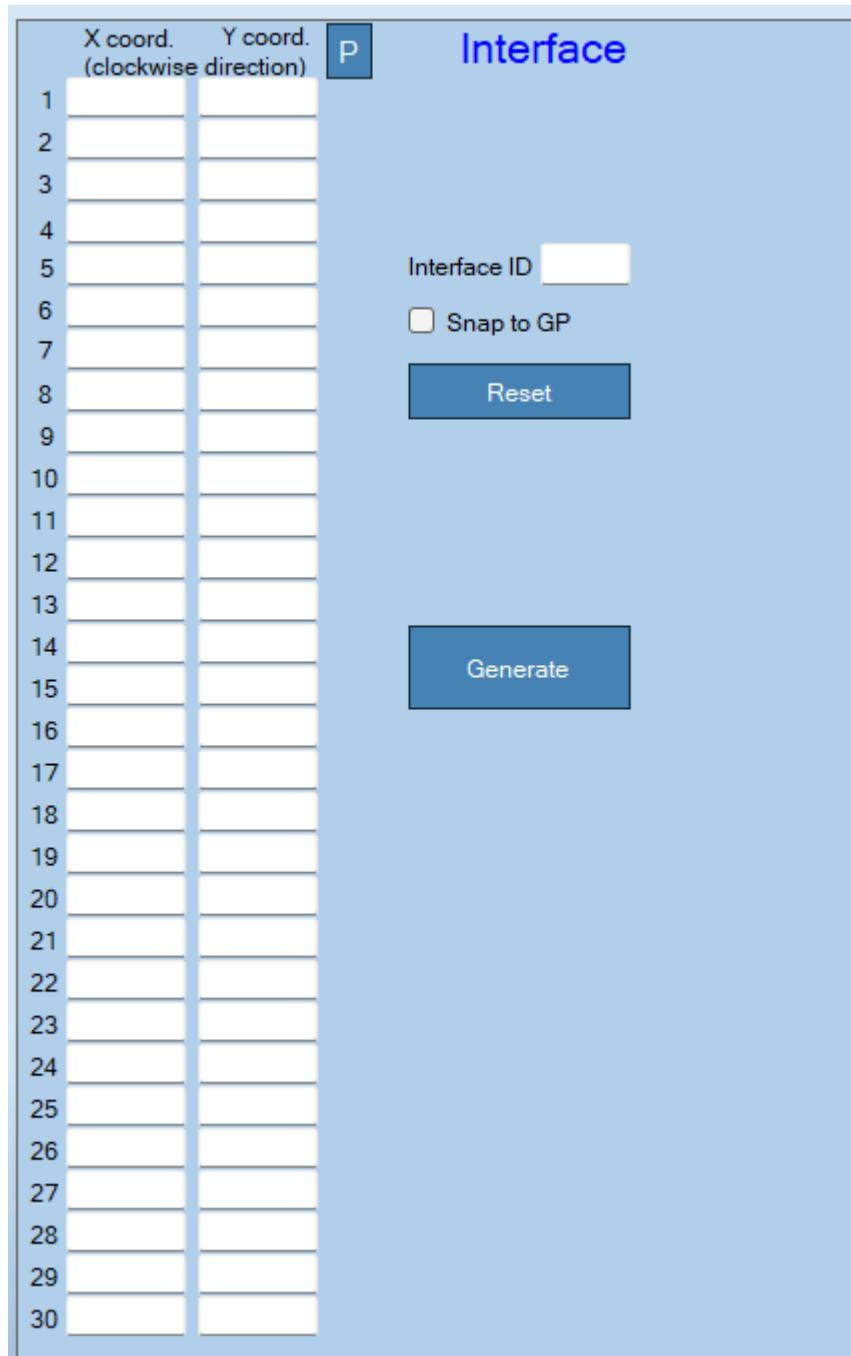

Figure 33: 3D Surfaces Menu – Interface Mesh.
- **3D Surfaces Menu, Interface Mesh:** This menu option (shown in Figure 33) produces a code for creating interfaces over an irregular surface created with Geo Meshing v6. This option does not require the execution of *3D Meshing* after generation.